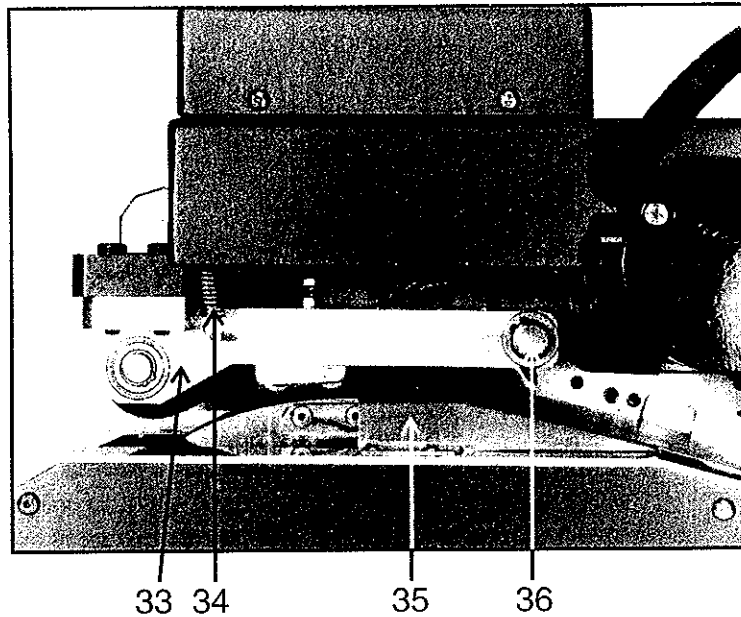
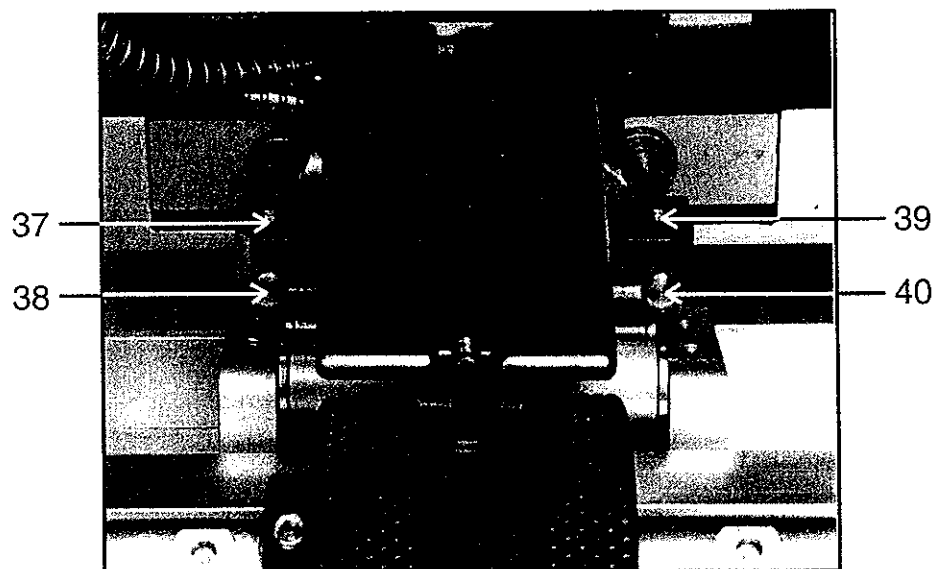

FIGURE 8
FIGURE 9
- C. Remove Upper Nip Sprocket Snap Ring (30) and slide Sprocket off Shaft.
- D. Proceed to other side of welder. Disconnect Nip Arm Spring, Figure 8 (34) from Nip Arm and remove Nip Pivot Shaft Snap Ring (36).
- E. Remove Nip Arm (33) from welder by sliding it off Nip Pivot Shaft. You can now inspect and clean Upper Contour Roller Assembly.
- F. Remove Upper Material Guide (35) to further expose Heating Wedge Assembly.
- G. Remove Wedge Mount Set Screws, Figure 9 (37 & 39), and with 1/4" punch or comparable tool, tap Linear Shafts (38 & 40) back through Wedge Mounts.